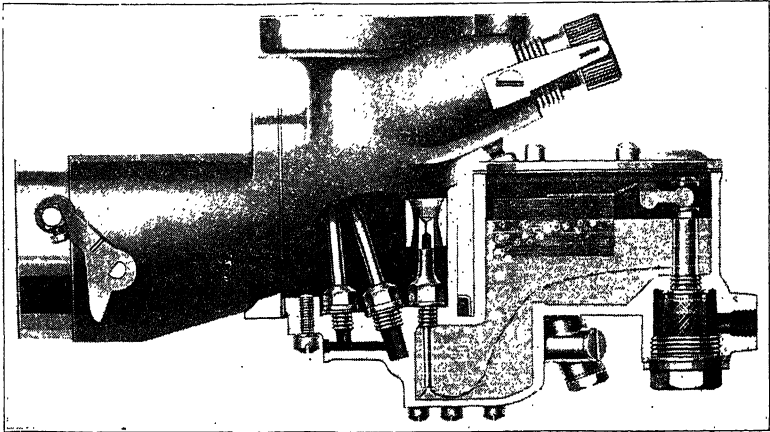

Fig. 8. Sectioned View of Up-draft Carburetor
**Four-Stroke Cycle.** One complete operation of a single-cylinder Otto or four-cycle explosion engine is shown in Figs. 4, 5, 6, and 7. Fig. 4 shows the end of the first or suction stroke of the cycle. At the beginning of this stroke when about  $\frac{1}{16}$  inch past the dead center, the inlet valve *A* is opened by a valve lifter whose movement is controlled by the cam on a secondary shaft driven through gears at half the speed of the engine. This allows the vapor supplied by the carburetor, which is an instrument for converting the liquid fuel into a vapor or gas, Fig. 8, to be drawn into the cylinder by the